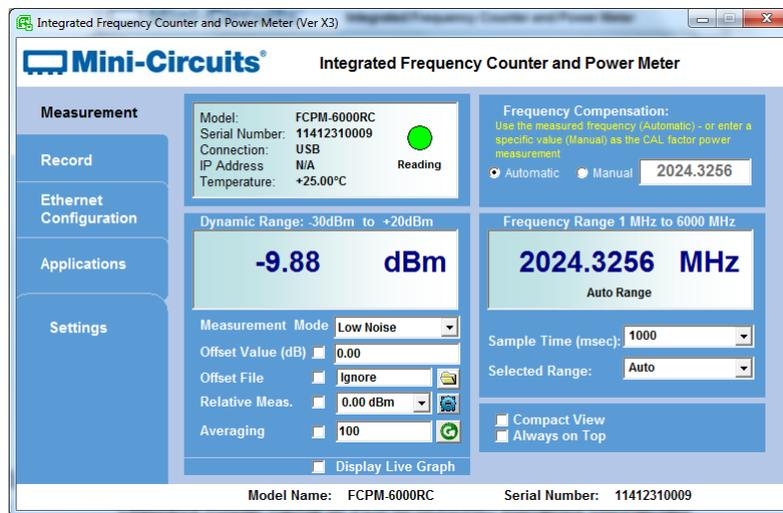

Figure 3.3: FCPM Measurements Screen
This screen provides a simple and easy-to-use interface for measuring CW signals RF power and frequency with the FCPM-6000RC (See **Fig 3.3**). Both frequency and power measurement fields are constantly updated from readings taken at the rate selected by the user providing simultaneous synchronized measurements.
3.3.1 Model Status (Fig. 3.3)
3.3.2 Power Measurement (Fig. 3.3)
3.3.3 Frequency compensation (Fig. 3.3)
3.3.4 Frequency Measurement (Fig. 3.3)